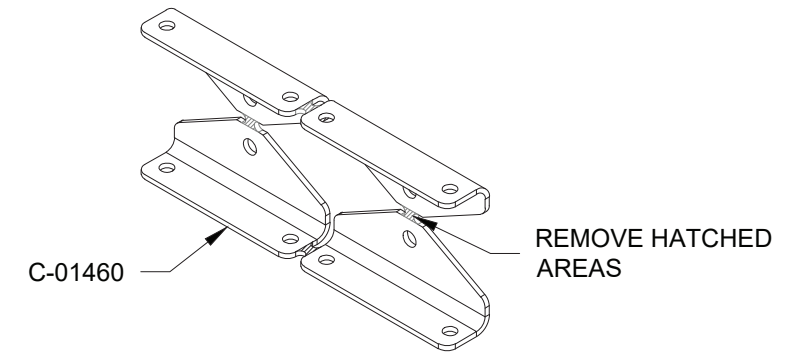

FIGURE 3: SEPARATE LATCH BELLCRANK ANGLES
Step 10: Separate the C-01460 Latch Bellcrank Angles as shown in Figure 3.